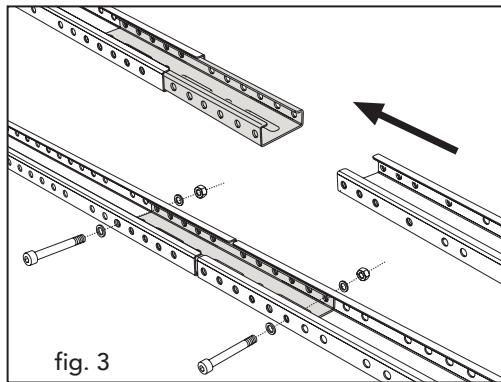

fig. 3
- 1 - Assemble the supporting structures according to the number of collectors to be installed, fitting the profiles together (fig. 3).